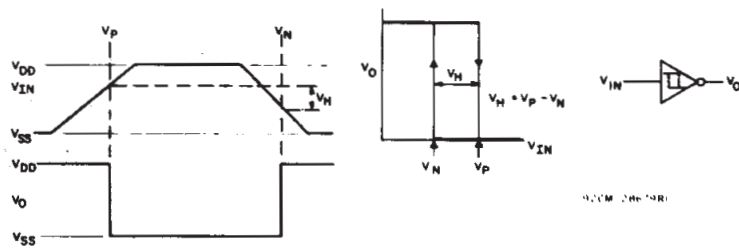

Fig. 6 — Hysteresis definition, characteristics, and test set-up.
■ CD40106B consists of six Schmitt-trigger circuits. Each circuit functions as an inverter with Schmitt-trigger action on the input. The trigger switches at different points for positive- and negative-going signals. The difference between the positive-going voltage ( $V_P$ ) and the negative-going voltage ( $V_N$ ) is defined as hysteresis voltage ( $V_H$ ) (see Fig.6). The CD40106B types are supplied in 14-lead hermetic dual-in-line ceramic packages (F3A suffix), 14-lead dual-in-line plastic packages (E suffix), 14-lead small-outline packages (M, MT, M96, and NSR suffixes), and 14-lead thin shrink small-outline packages (PW and PWR suffixes).